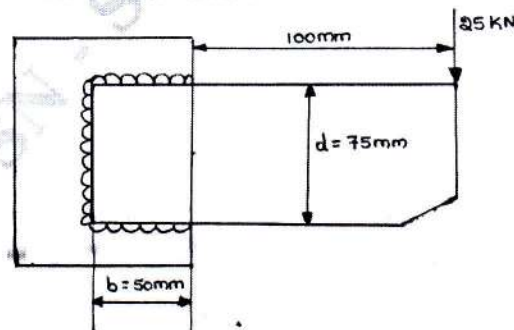

Fig.Q8(b)
- b. Determine the size of weld required for an eccentrically loaded weld as shown in Fig.Q8(b). The allowable stress in the weld is 75 N/mm^2 .